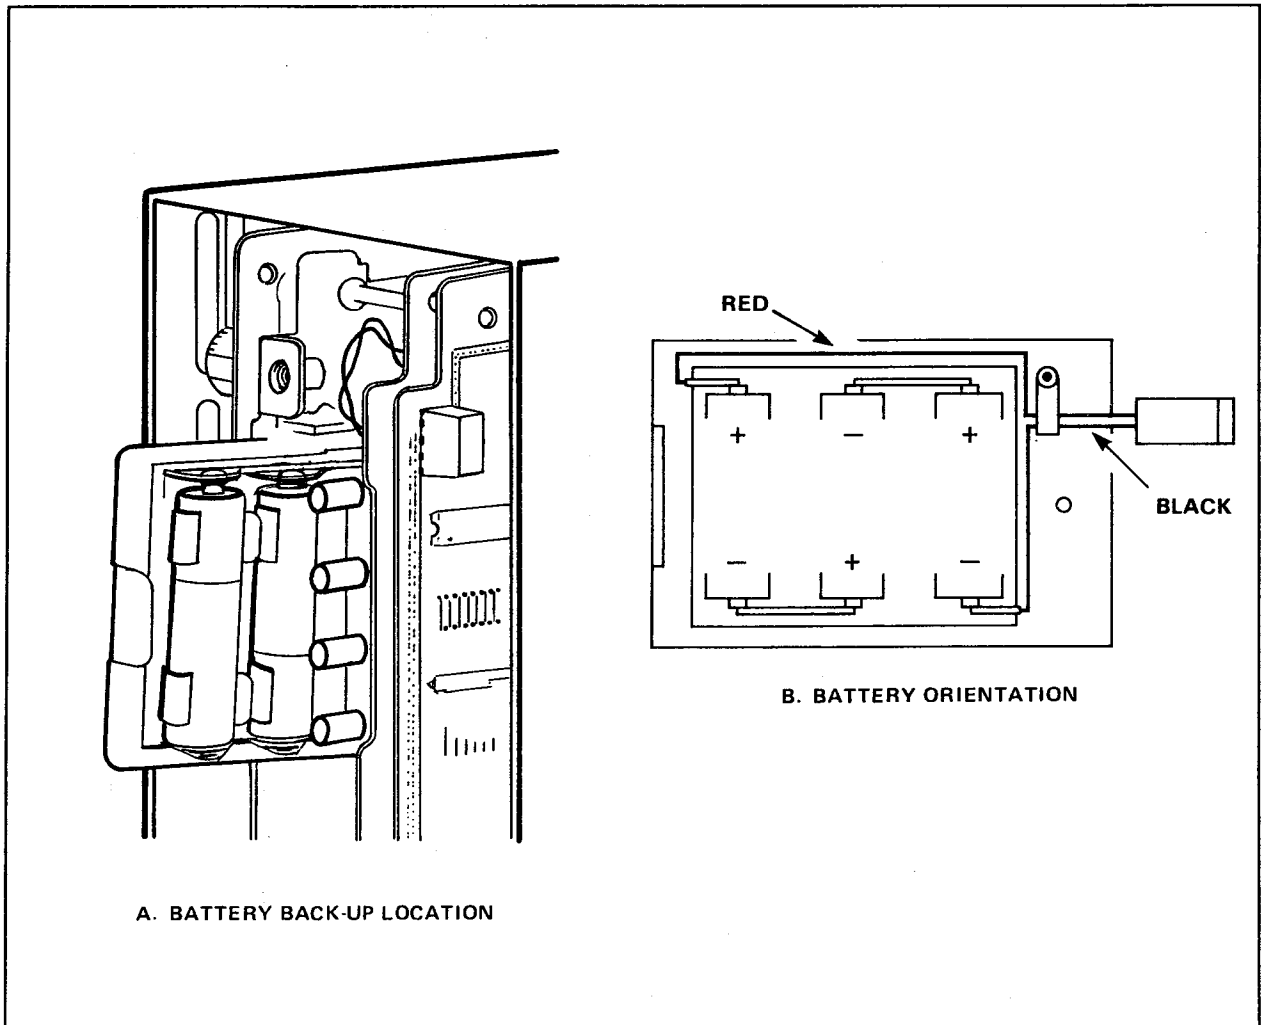

Figure 6-3. Replacing Backup Batteries (PC-1100)
1. Remove the PC-1100 controller's front panel. The backup batteries are located as shown in Figure 6-3.